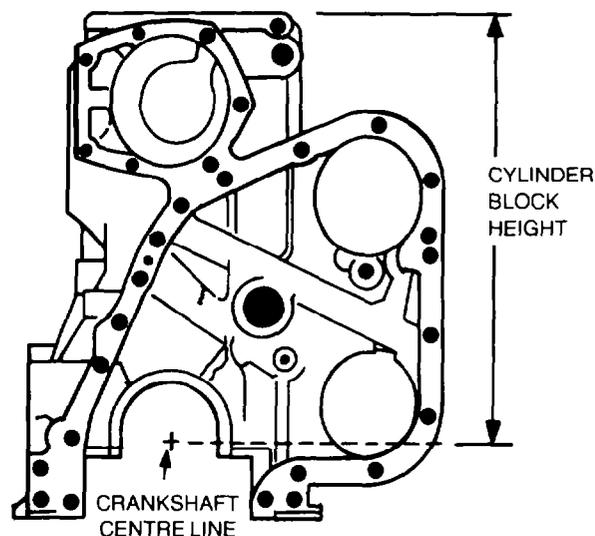

Figure 36 — Measuring Cylinder Block Height
- h. Where all of the cylinder liners have been removed, check the cylinder block top deck for distortion using a straight edge and a feeler gauge. If the distortion exceeds 0.05 mm (0.002 in.) the cylinder block will require machining. However, prior to machining the cylinder block, measure the height of the cylinder block from the centre line of the crankshaft to the top deck surface (see Fig. 36), the minimum permissible cylinder block height is 482.45 mm (18.994 in.), discard any cylinder block below specification or when the distortion cannot be rectified within the limit.